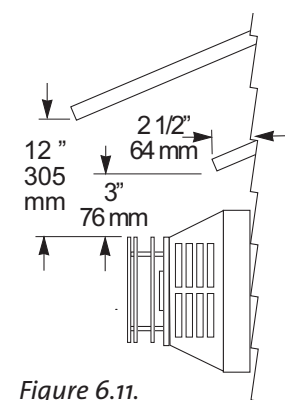

Figure 6.11. Termination Clearance to overhangs.
- The horizontal termination cap must maintain a 3" clearance to any overhead combustible projections 2 1/2" or less. It must also maintain 12" clearance from projections exceeding 2 1/2". See fig. 6.11.